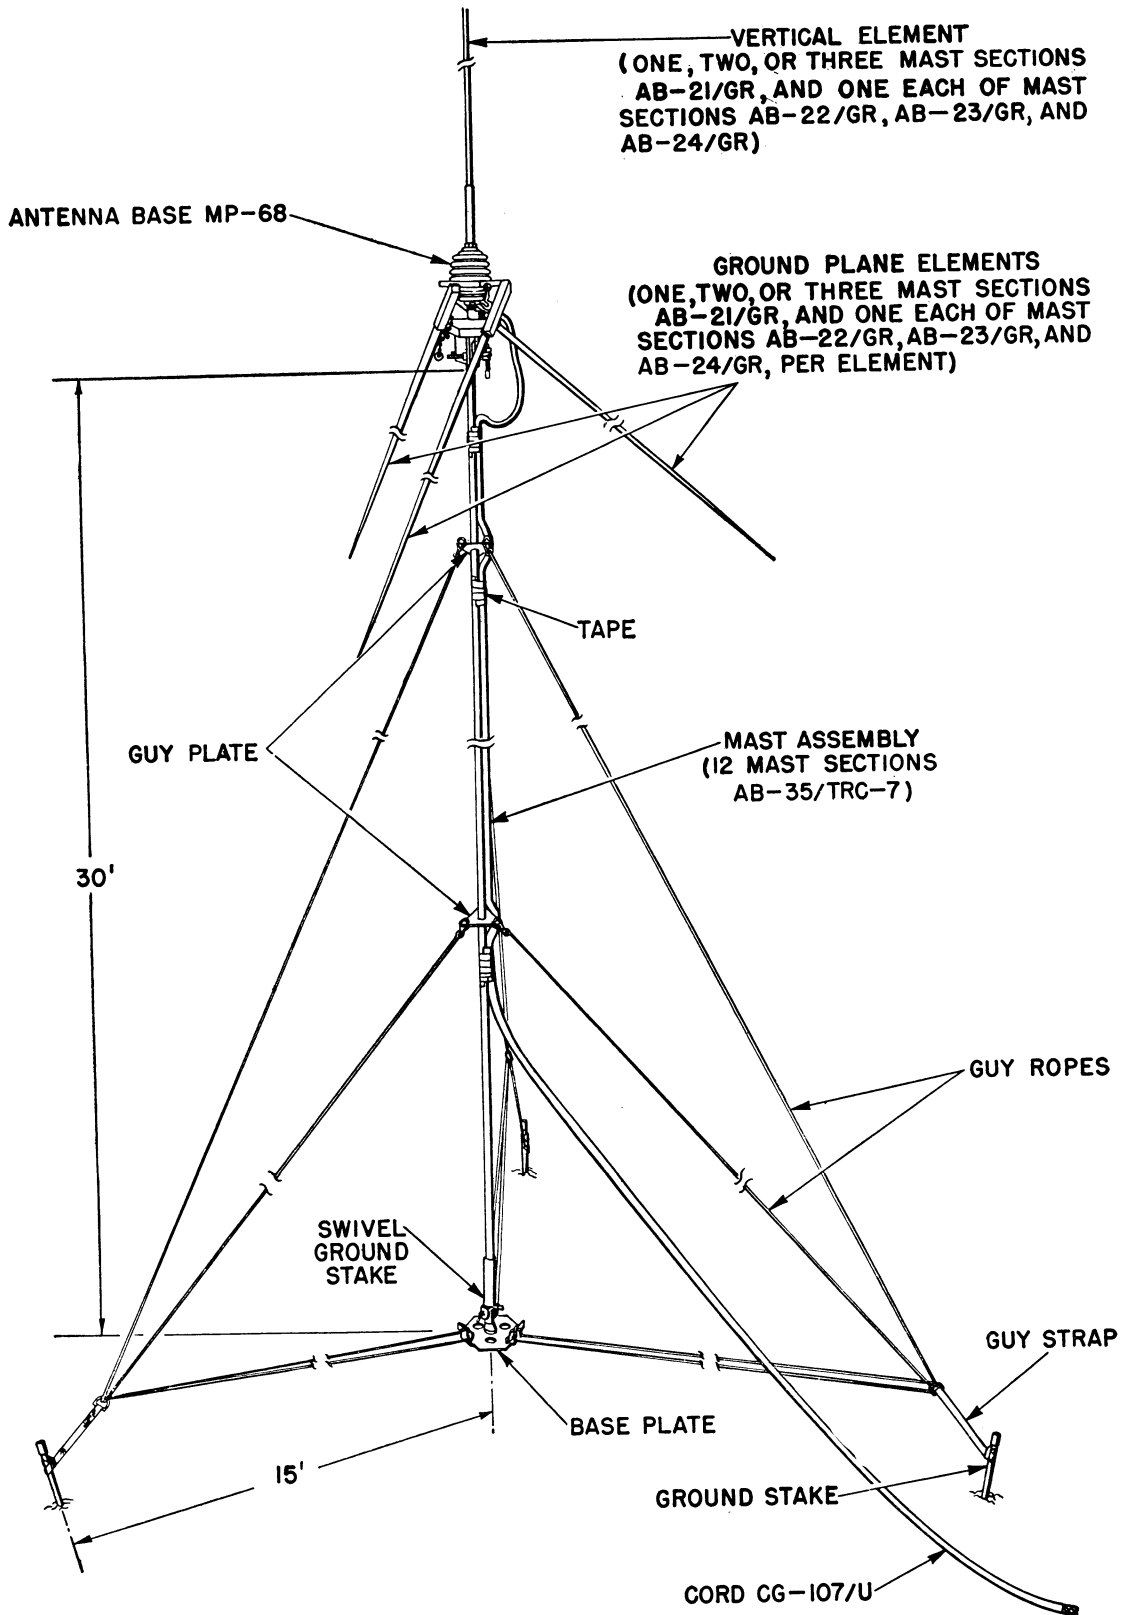

Figure 33. Antenna Equipment RC-292.
a. Antenna Equipment RC-292 (fig. 33) is an elevated, wide-band, modified ground plane antenna which can be used as an auxiliary antenna with Radio Sets AN/PRC-8, -9, and -10 to increase the distance range. The antenna consists of one vertical radiating element and three ground plane elements which make an angle of 142° with the vertical element. The lengths of the elements can be preadjusted for best performance with each of the above radio sets. The antenna is elevated on a 30-foot sectional mast which is held erect by guy ropes and ground stakes. The equipment is